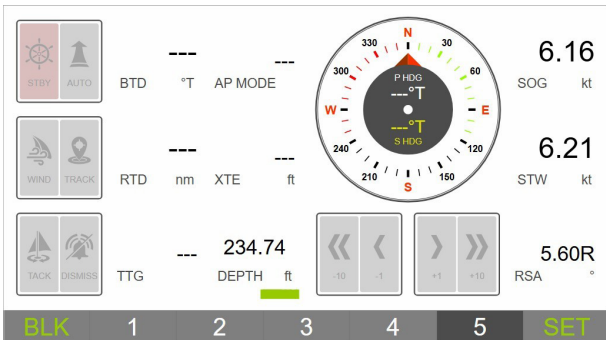

Figure 12. Web Gauges Autopilot control page
- The fifth page comes preconfigured for autopilot control (Figure 12).